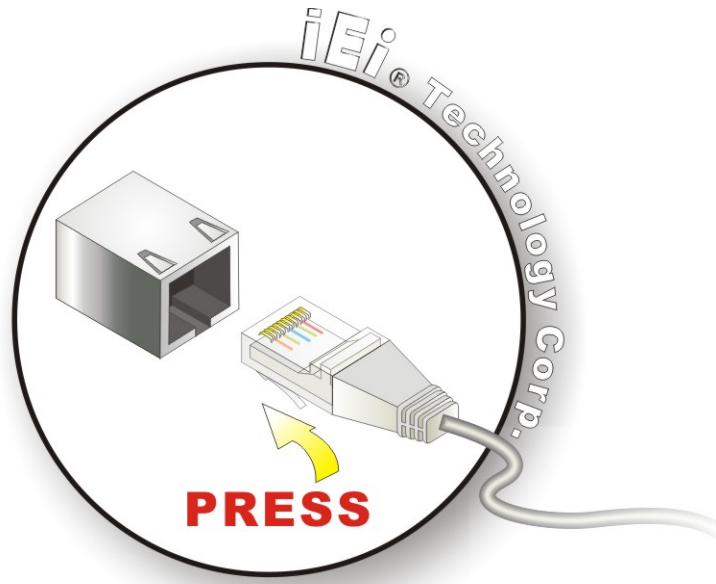

Figure 5-14: LAN Connection
Step 2: Align the connectors. Align the RJ-45 connector on the LAN cable with one of the RJ-45 connectors on the SPCIE-3600AM2. See **Figure 5-14**.